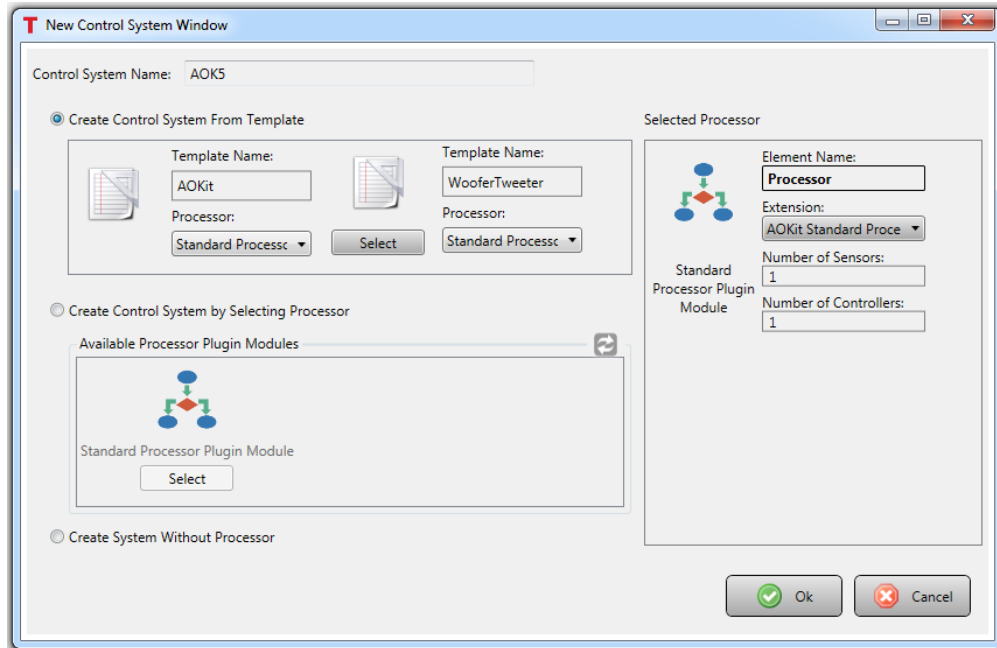

Figure 82 The New Control System Window Showing Two Options Under the Create Control System From Template
2. Click the button to the left of the **Create System From Template** option. Then select the template named AO Kit. A processor will appear in the **Selected Processor** box at the right side of the window. See Figure 82. There is a dropdown menu under the Extension option for the processor; from this menu, select the processor extension to use with the AO control system. Two options are available: AO Kit DMP40 Processor Extension Module and AO Kit Standard Processor Extension Module. See Section 5.3 for details about these two options.